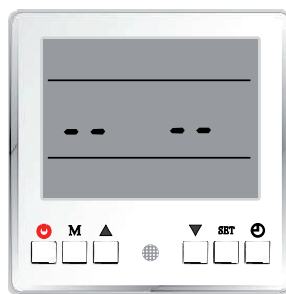

Figure 7-13
- 2.- Press  for 5 seconds until this symbol “----” appears (Figure 7-13);